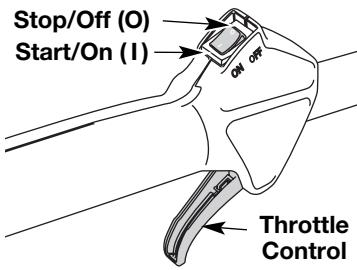

Fig. 4
- NOTE:** There is no need to turn the unit on. The On/Off Stop Control (Fig. 4) is in the ON (I) position at all times.
2. Press and hold On/Off Stop Control in the OFF (O) position until engine comes to a complete stop (Fig. 4)